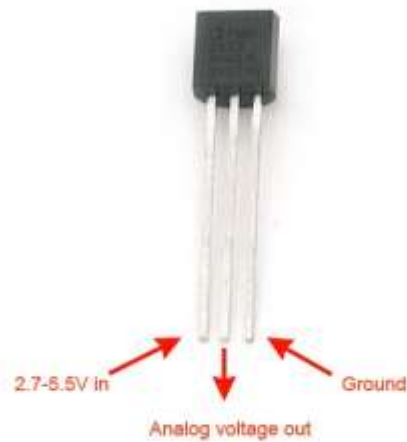

Fig. 1. Pin diagram of an LM-35 IC.
- **Component description-** An LM35 is a 3-pin temperature sensor. It gives output in voltage according to the temperature, having an accuracy of 10mV per degree Celsius. It can measure temperatures in the range of -55°C to 150°C and it operates from 4V to 20V. Its output voltage is proportional to the temperature i.e., higher the temperature, higher is the output voltage. The output voltage of this sensor can be easily converted to digital form using an ADC so that a microcontroller can easily process it. Fig. 1 displays the pin diagram of LM-35 IC.